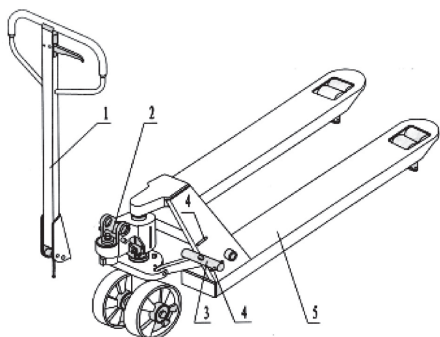

Fig. 1 1. Draw-bar 2. Pin
- Press the draw-bar (110B) down, take away the pin(#2) (See Fig. 1).
- Let the control handle (117) on 'RAISE' position, then raise the lever plate (319) with the pin (#2) and insert the adjusting bolt(103) into the front slot of lever plate (319), note to keep the adjusting nut (104) on the under side of the lever plate.
- Use a hammer to tap another elastic pin (106) into the axle with hole (105). The draw-bar is now assembled to the pump.